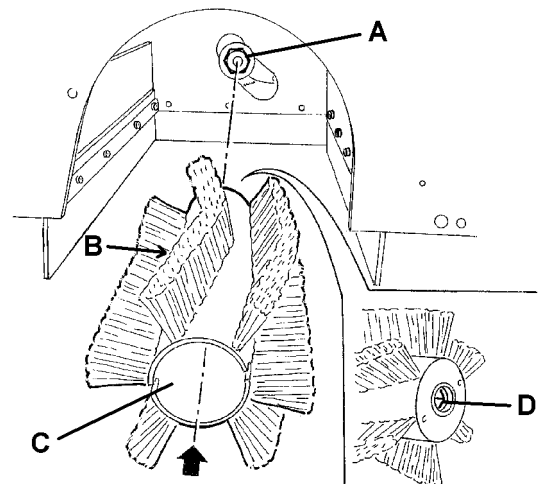

Figure 8
8. Check that the drive hub (A, Fig. 8) is free from dirt or foreign materials (ropes, rags, etc.) accidentally rolled up.
9. The new main broom must be installed with the bristles rows (B, Fig. 8) bent as shown in the figure.
10. Install the new main broom (C, Fig. 8) and ensure that the mesh (D) correctly fits into the relevant drive hub (A).